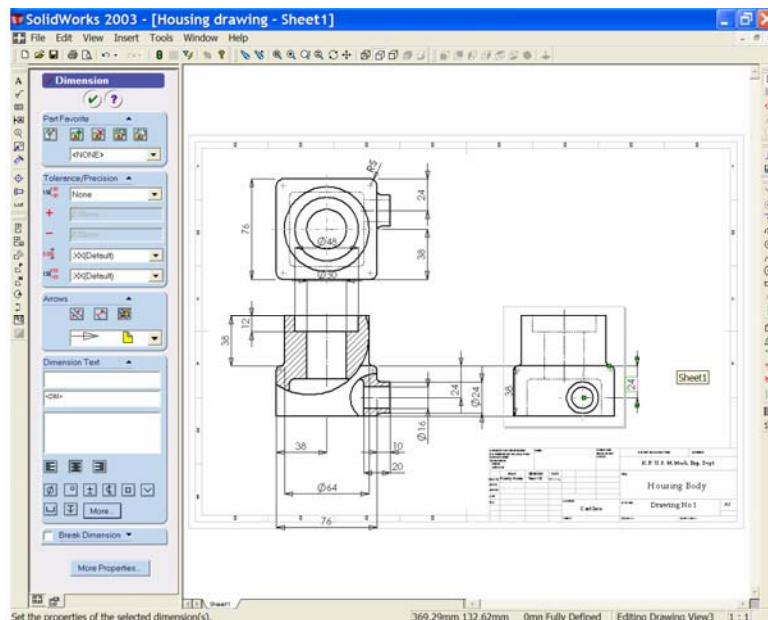

Figure 36
31. The location dimensions of the small boss/bore are best shown in the **RIGHT END ELEVATION**, therefore the dimensions should be moved from their present locations to this view. To do this hold down the control key as you select the dimension with the left button of the mouse, then drag the dimension to the **END ELEVATION**. Drop the dimension at the location shown in Figure 36.